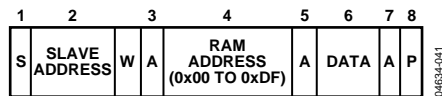

Figure 31. Single Byte Write to the RAM
- To write a single byte of data to the RAM. In this case, the command byte is RAM Address 0x00 to RAM Address 0xDF, and the only data byte is the actual data, as shown in Figure 31.